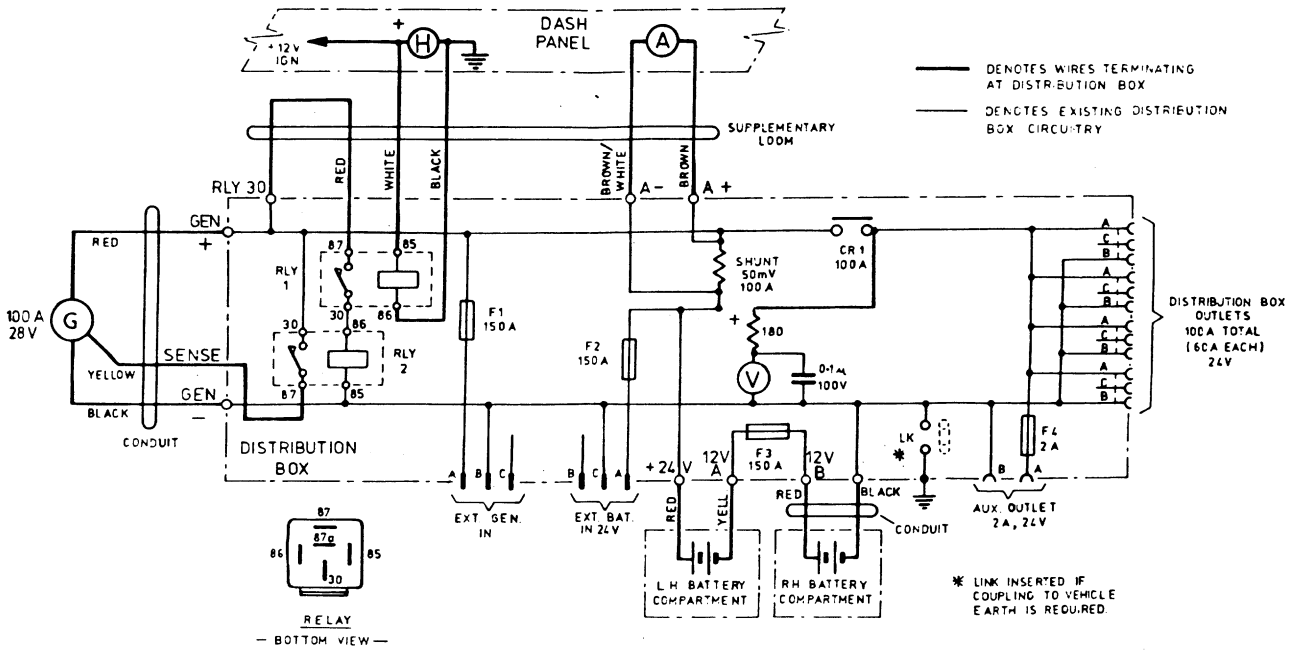

FIG 1 - CIRCUIT DIAGRAM OF 100A 28V DISTRIBUTION SYSTEM (SERIES 3)
10. Summary. Figures 1 and 2 are included as aids for future circuit checking and repairs to the 28V distribution system.